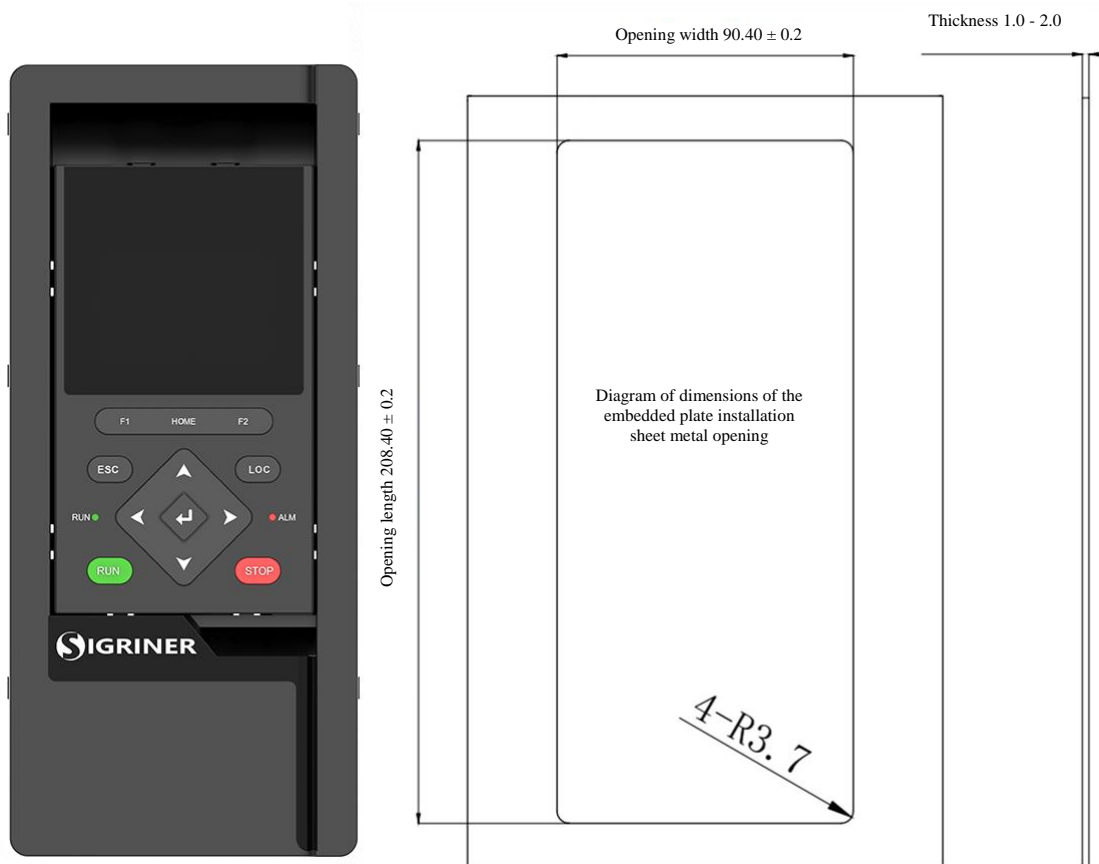

Figure 2-9 Diagram of the cabinet door opening dimensions
- 2) Fix the embedded kit. The dimensions of the cabinet door opening are shown in Figure 2-9: